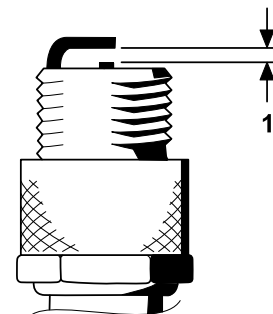

Figure 32
4. Set the air gap between the center and side of the electrodes at 0.76 mm (0.030 inches) as shown in Figure 32.